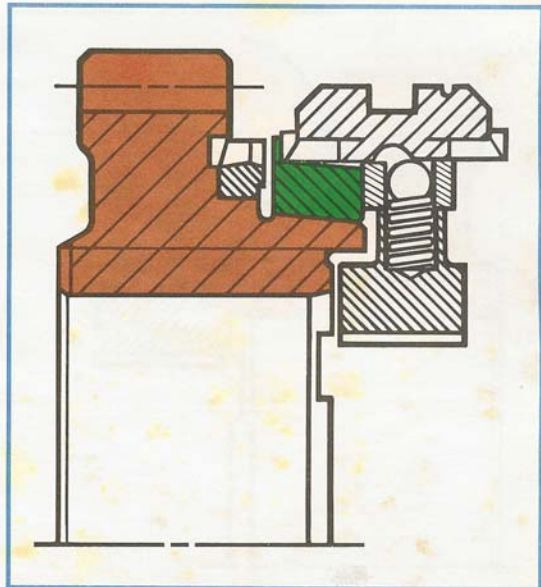

Figure 1-57, Cone Clutch Operating.
- With constantly building pressure forcing the blocking ring's internal cone surface against the speed gear's cone surface, the clutch does its job and the gear and shaft are at the same speed (see Figure 1-57).